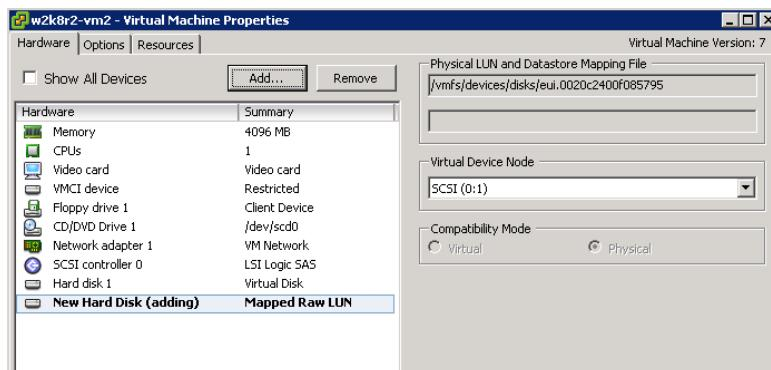

Figure 5-29. Confirming the New Disk
14. Observe the New Hard Disk (adding) entry in the Virtual Machine Properties window, and then click **OK** (Figure 5-29).